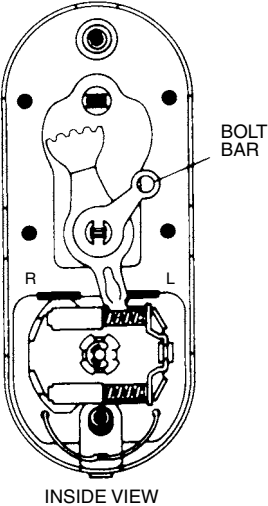

Figure 13.82 Changing hand, Step 13.
13. Install the bolt bar (Fig. 13.82).